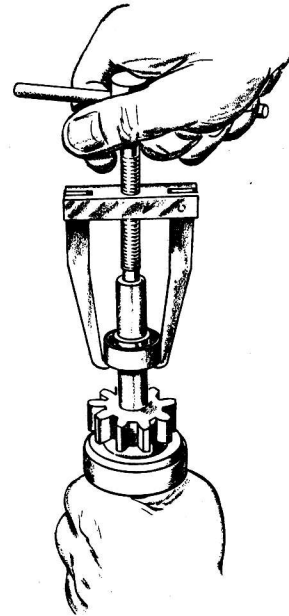

FIGURE 45. MOUNTING OVERRUNNING CLUTCH
3. To mount the overrunning clutch; first insert the pinion stopper into the armature shaft, then apply the ring to the groove of the shaft rigidly. For the insertion of the ring, use a tool as shown in Figure 45 and pull the pinion stopper up.